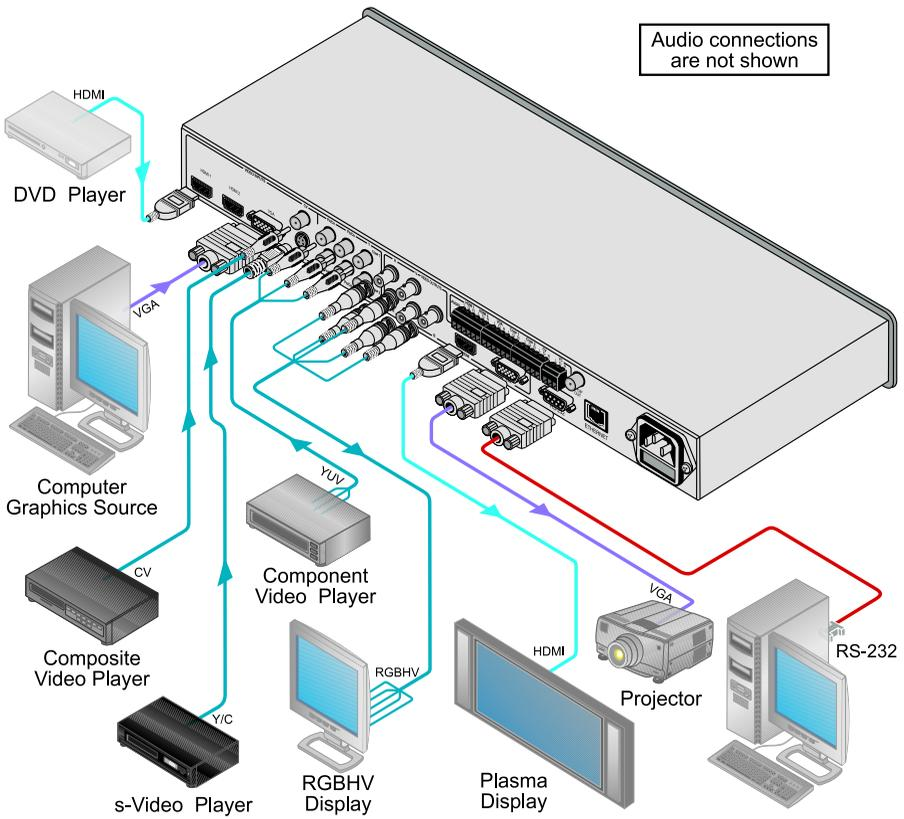

Figure 2: Connecting the VP-437 Presentation Switcher / Scaler
To connect1 your **VP-437**, as illustrated in the example in Figure 2, do the following:
6. Connect the audio input signals to the AUDIO IN terminal block connectors, as required (not shown in Figure 2).
10. Connect the power cord3 (not shown in Figure 2).